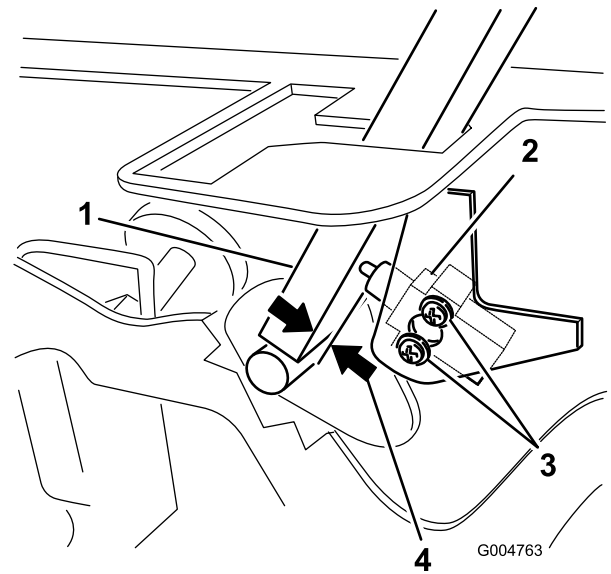

Figure 76
3. Loosen the 2 screws securing the interlock switch (Figure 76).
4. Holding the control lever against the frame, move the switch toward the lever until the distance between the lever and switch body is 0.4 to 1 mm (0.015 to 0.045 inch) as shown in Figure 76.